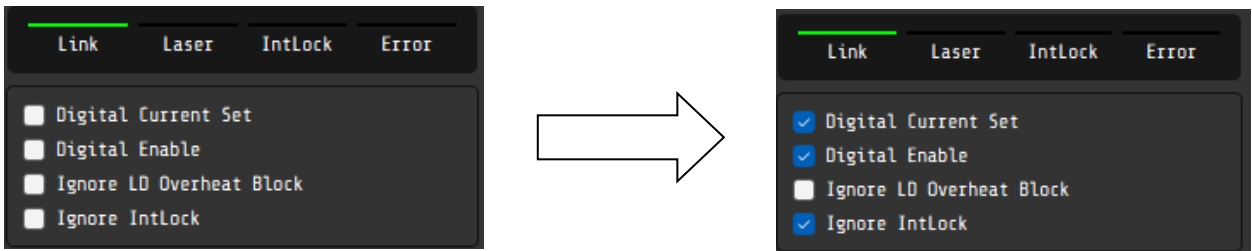

Figure 7. MAIMAN BENCHSOFT Device state flags panel
- After parameters are set properly, please activate Device state flags panel which is shown below in Figure 7. In order to activate, tick the checkboxes to “Digital Current Set”; “Digital Enable” and “Ignore IntLock”.